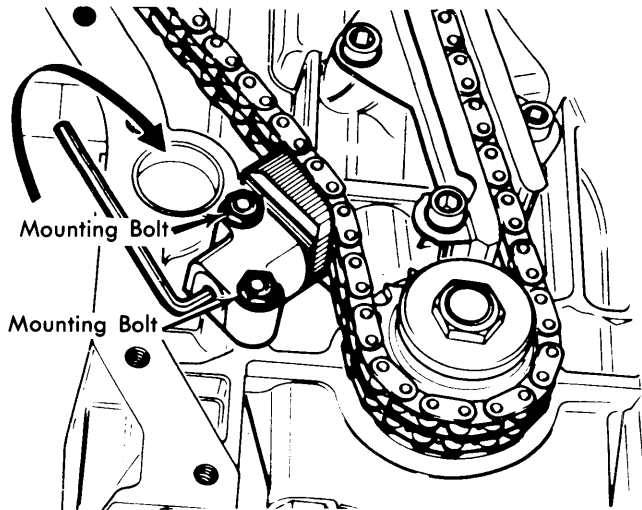

Fig. 11 Timing Chain Adjuster Mechanism with Chain in Final Position
3) Replace chain damper and camshaft securing bolts. Adjust chain tensioner as shown in Fig. 11.